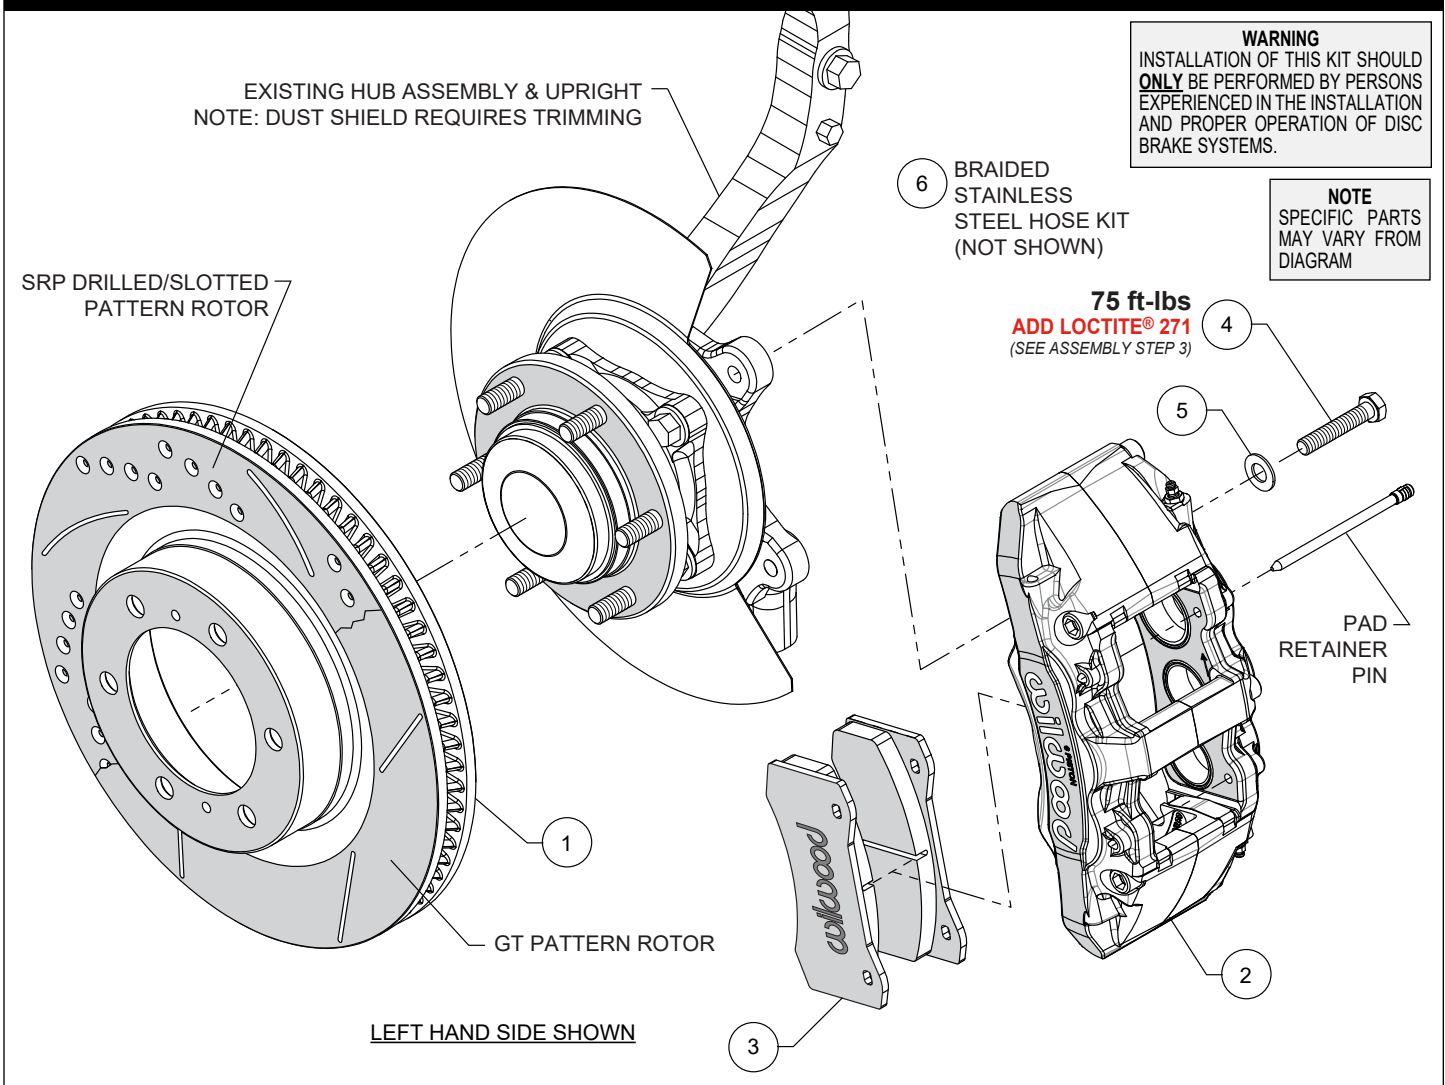

Figure 1. Typical Installation Configuration
Numbers in parenthesis refer to the parts list and Figure 1 on the preceding pages.
STEP 1 Slide the rotor (1) onto the hub. **NOTE:** The rotor must fit flush against the hub flange or excessive rotor run out may result. Install three lug nuts (finger tight) to keep the rotor in place while continuing with the installation, Photo 1.
STEP 2 Remove the two pad retaining pins from the caliper (2), Figure 1. Insert the brake pads (3) into the caliper, with the friction material facing the rotor, as shown in Photo 2. Secure the brake pads in place with the pad retaining pins, Photo 3 and Figure 1. **CAUTION:** Ensure pad retaining pins are completely engaged into caliper. It is recommended to use a small flat punch and hammer to tap the pins in until they are fully seated.
STEP 3 **NOTE:** This kit contains distinct right and left hand calipers that must be mounted in a specific direction, as described below. Ensure that the caliper is mounted so the largest pistons are at the rotor exit end of the caliper, in relation to the forward direction of the rotor. Mount the caliper (2) onto the OEM caliper mounting bosses of upright using bolts (4) and washers (5), as shown in Figure 1. Apply red *Loctite*® 271 to bolt threads, and torque to value shown in Figure 1.
STEP 5 Attach brake line to caliper. **NOTE:** OEM rubber brake hoses generally cannot be adapted to Wilwood calipers. Install Wilwood's braided stainless steel flexline hose kit (6), p/n 220-14618, included with this kit. The caliper inlet fitting is a 1/8-27 NPT.